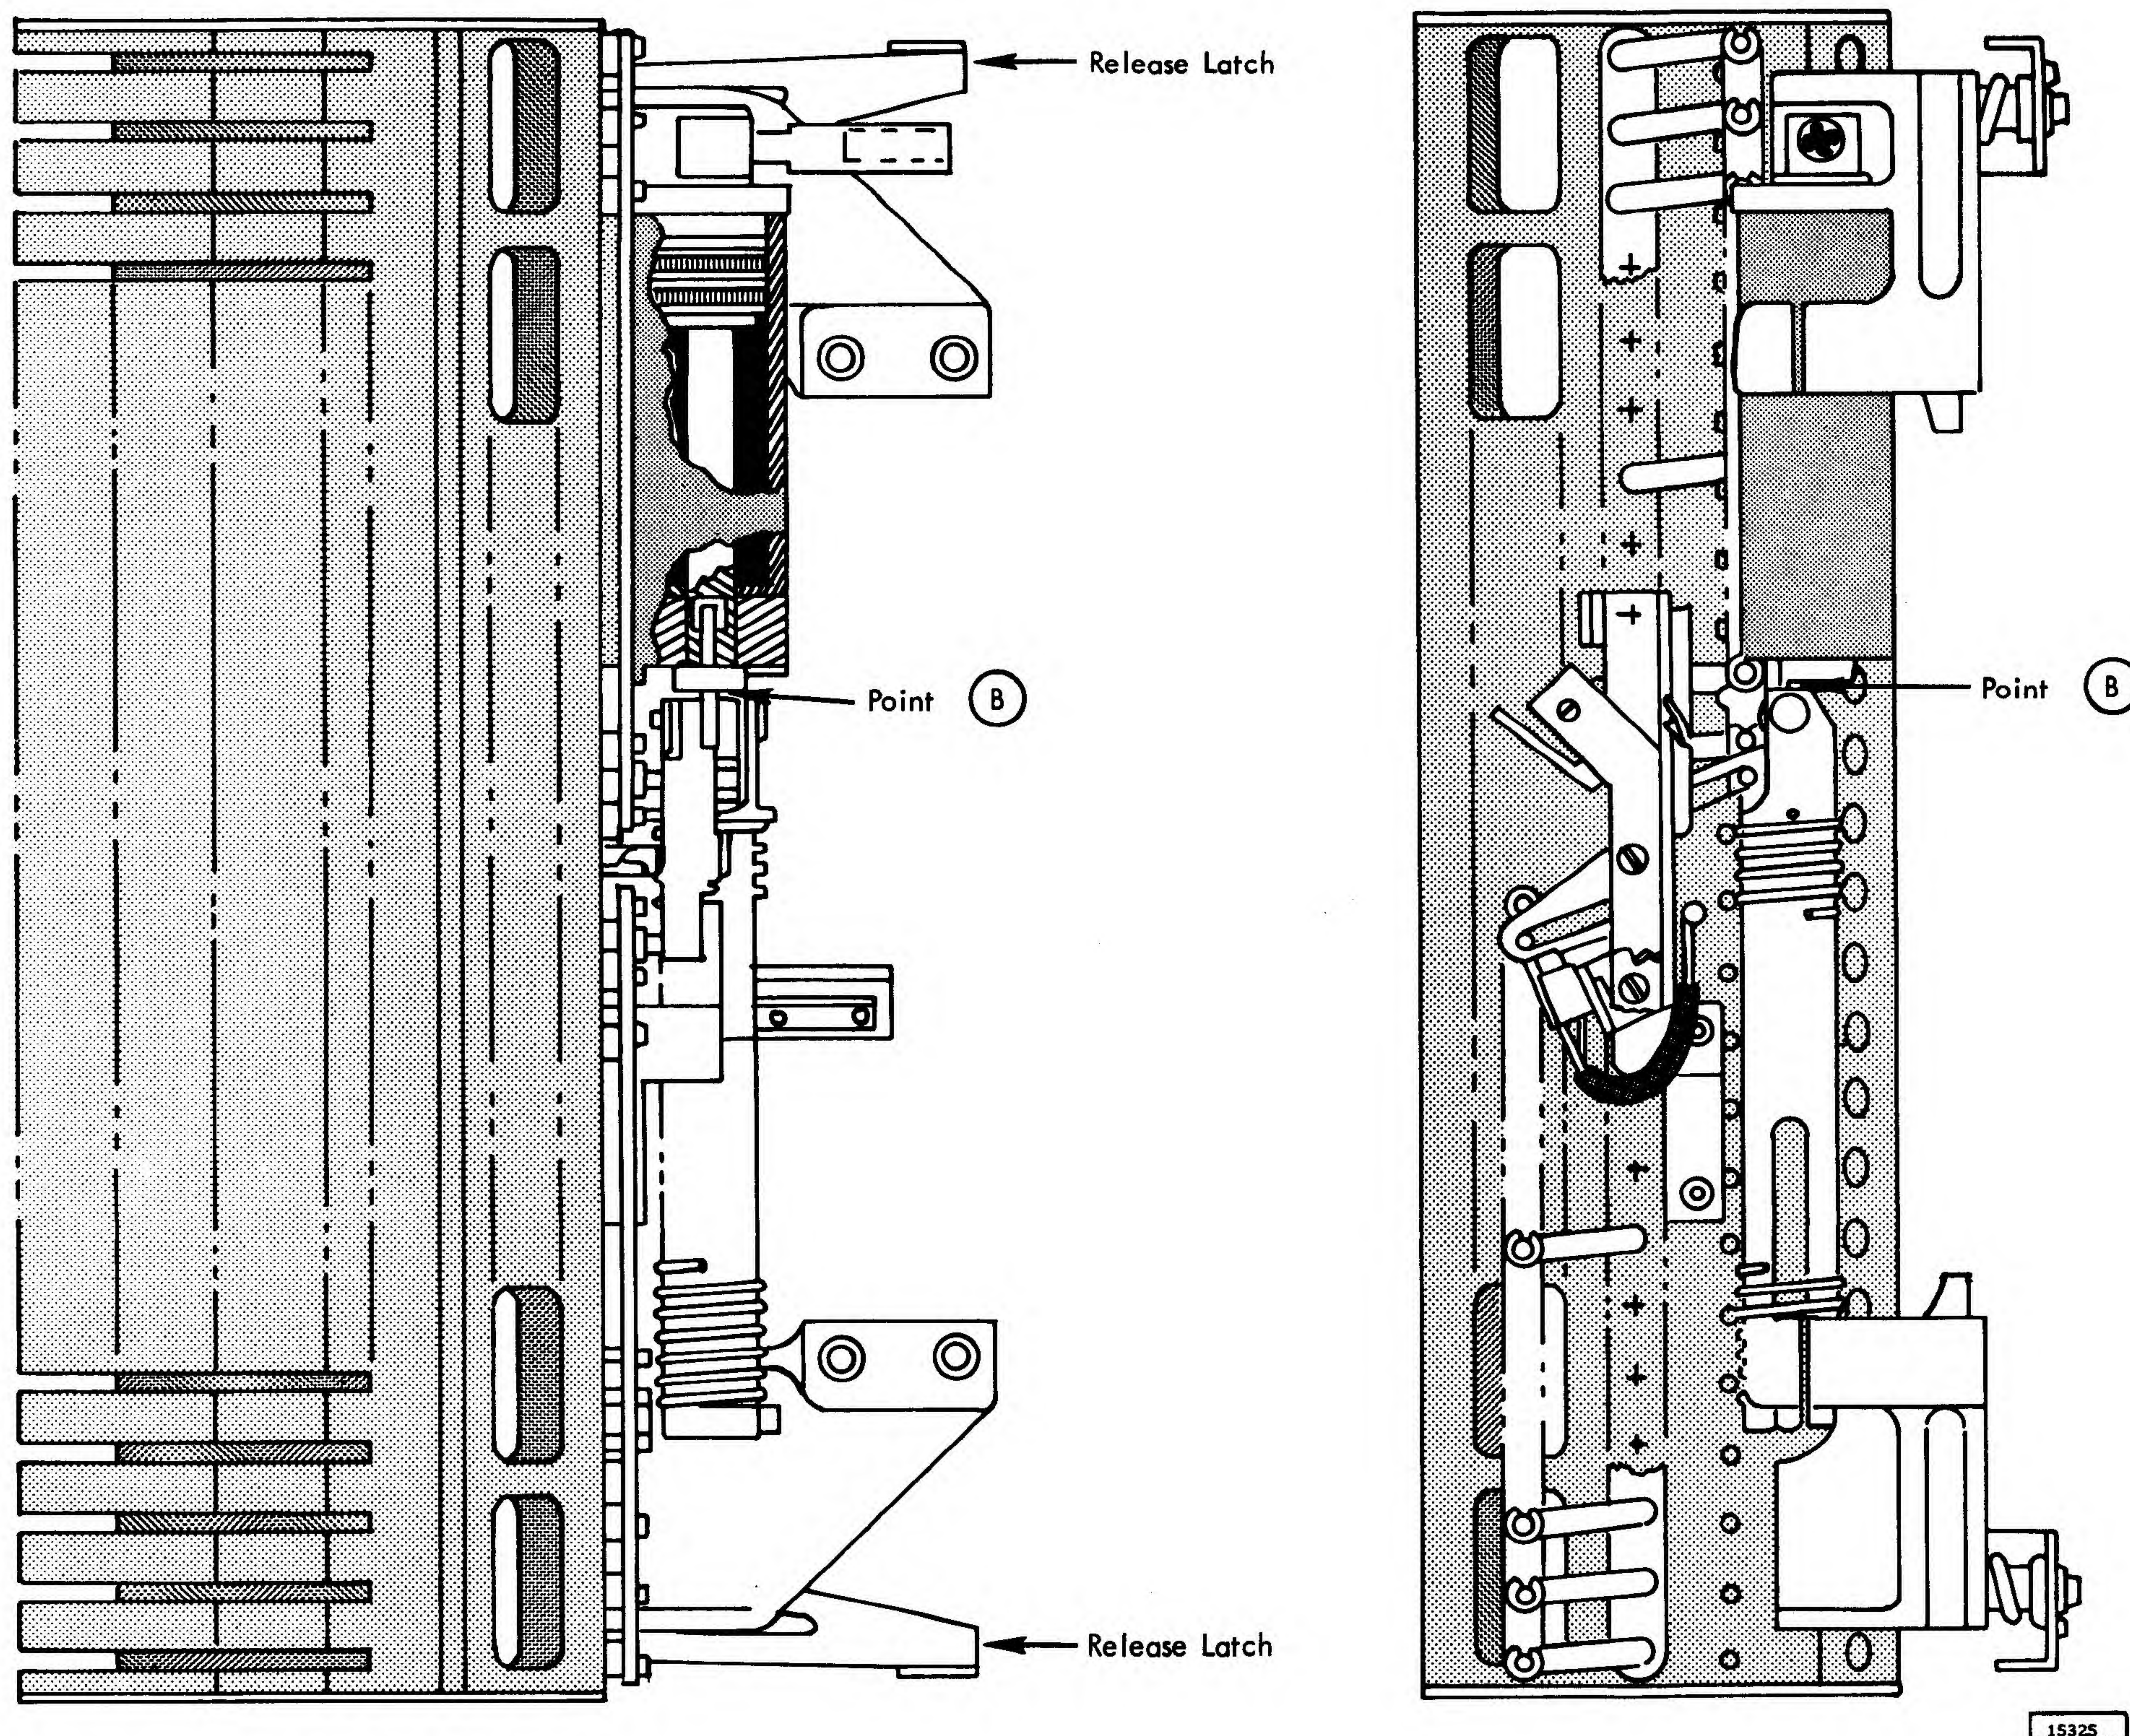

Figure 4-20. Head Load-Head Unload Adjustments
**Heads Unloaded Switch.** With assembly in the heads unloaded condition, the heads unloaded switch should be adjusted to just make with a 0.001-inch shim between the air-cylinder piston and the main-link roller (Point B) and not made with a 0.005-inch shim at Point B (Figure 4-20).